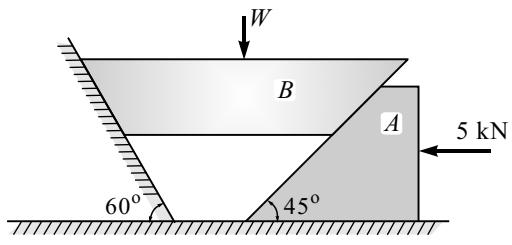

Fig. 8.E38
39. A 15° wedge of negligible weight is driven to tighten a body B which is supporting a vertical load of 1000 N , as shown in Fig. 8.E39. If the coefficient of friction for all contacting surfaces be 0.25, find the minimum force P required to drive the wedge.